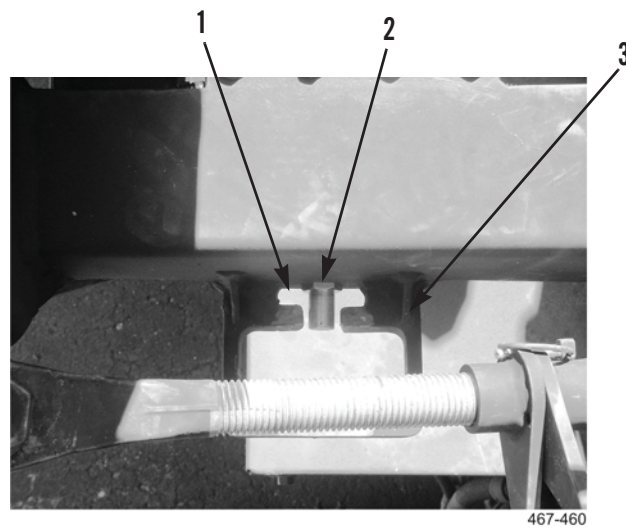

Figure 5. Front Transport Lock Sensor.
3. Remove locking nut (Figure 5, Item 1) from transport lock sensor (Figure 5, Item 2).
4. Remove transport lock sensor (Figure 5, Item 2) from bracket (Figure 5, Item 3).